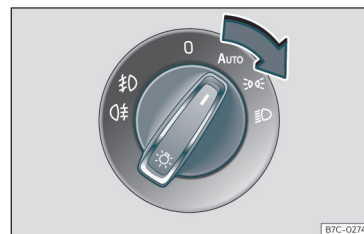

Fig. 92 Dash panel: lights control.
- Turn the switch to the required position »» Fig. 92.